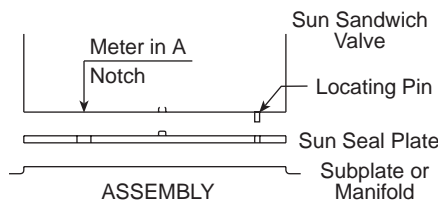

Figure 2: Assembly
bodies are located properly, all ISO 03 sandwich bodies are stamped with an arrow (or arrows) to show the relationship to the notch in the seal plate (see Figure 2). Multi-function bodies are "NOTCH" stamped for all possible mounting positions and all positions should be carefully inspected to be sure the intended function is correctly installed.
2. Position the Sun sandwich body so that the control “NOTCH” arrow for the required function points to the “NOTCH” in the seal plate. See Figure 2.